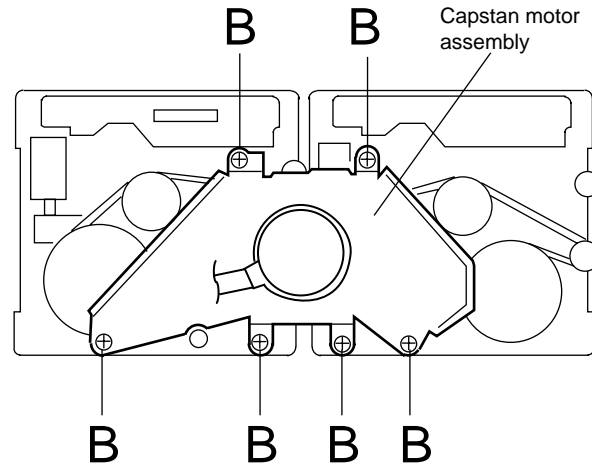

Fig. 5
■ Removing the Capstan Motor Assembly (See Fig. 5 to 7)
1. Remove the six screws "B" retaining capstan motor assembly (See Fig. 5).